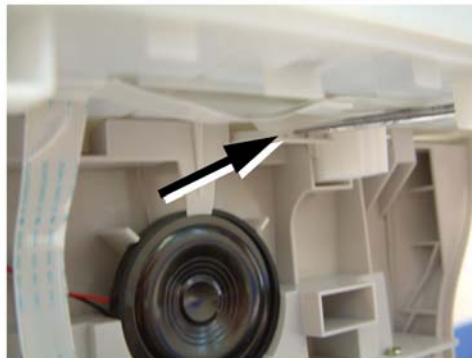

Figure 3
4. Use a flat head screwdriver to unhook, then remove the scanner assembly, Figure 3.